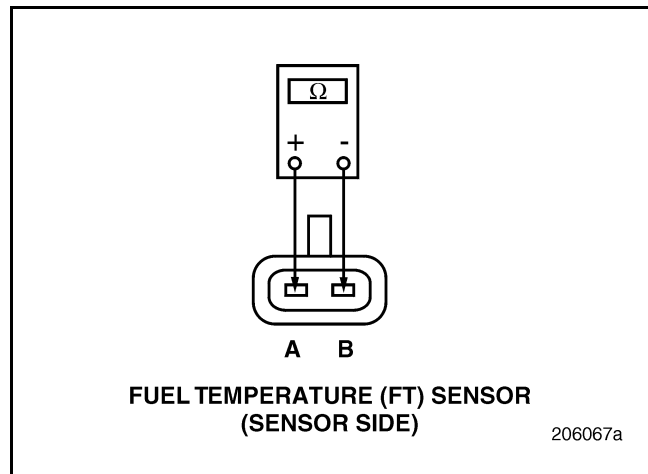

Figure 57
2. Disconnect the Fuel Temperature (FT) Sensor harness connector.
3. Measure the resistance across the pins of the FT Sensor with the fuel temperature between 32° and 194°F (0° and 90°C) (see Figure 57).